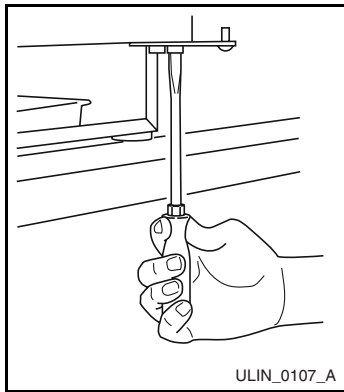

Figure 16
- Remove bottom hinge from cabinet (four screws) and screws on opposite side of cabinet (**Figure 16**).